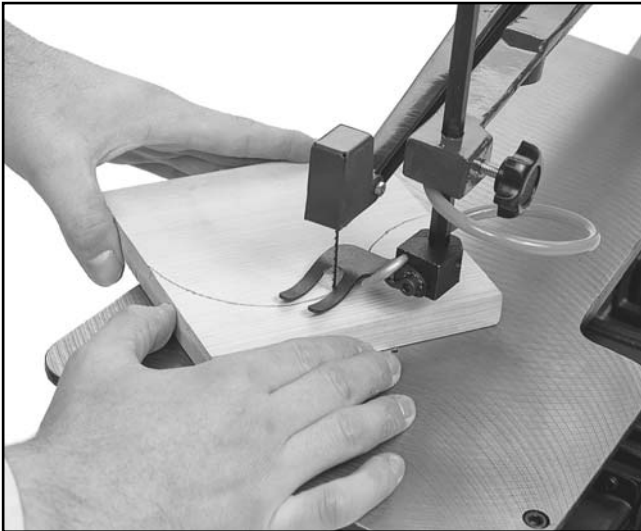

Figure 10.
4. If your cut produces waste in the curve's interior, turn the power off and wait until all motion stops before removing the waste against the blade. **Figure 10.**